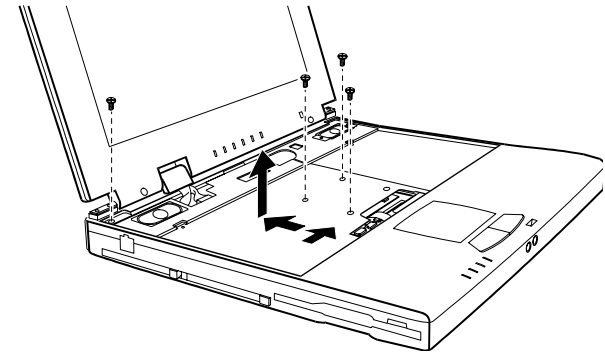

Figure 7-23. Removing the Metal Plate
2. Replace the metal plate and secure with four screws. (Refer to Figure 7-23 )